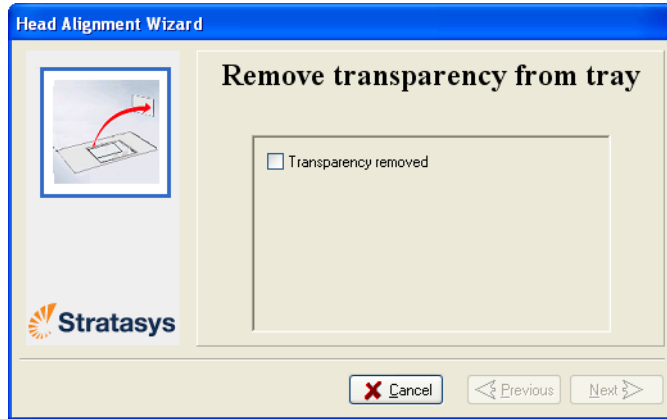

Figure 6-46: Head Alignment wizard—steps 8–10
10. In the wizard screen shown in figure 6-46, select the *Transparency removed* check box, and click Next.